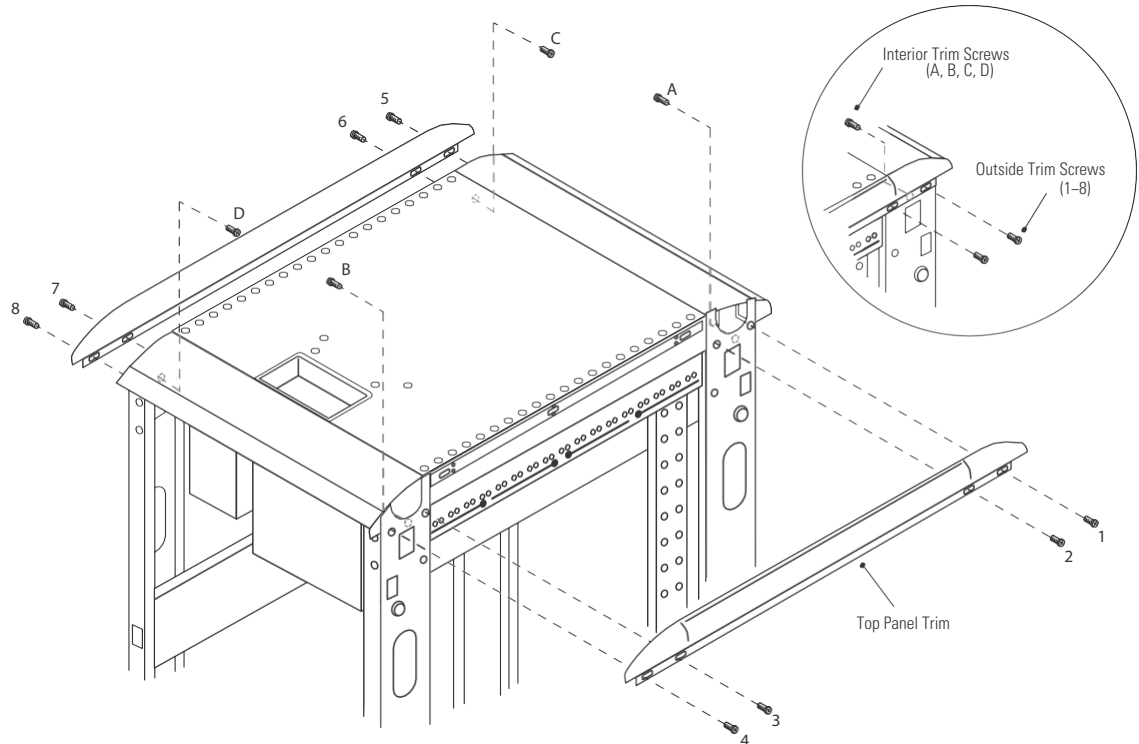

Figure 14. Removing the Trim Screws
3. Use a magnetized Phillips screwdriver to remove the trim on each side of the cabinet top panel (see Figure 14):